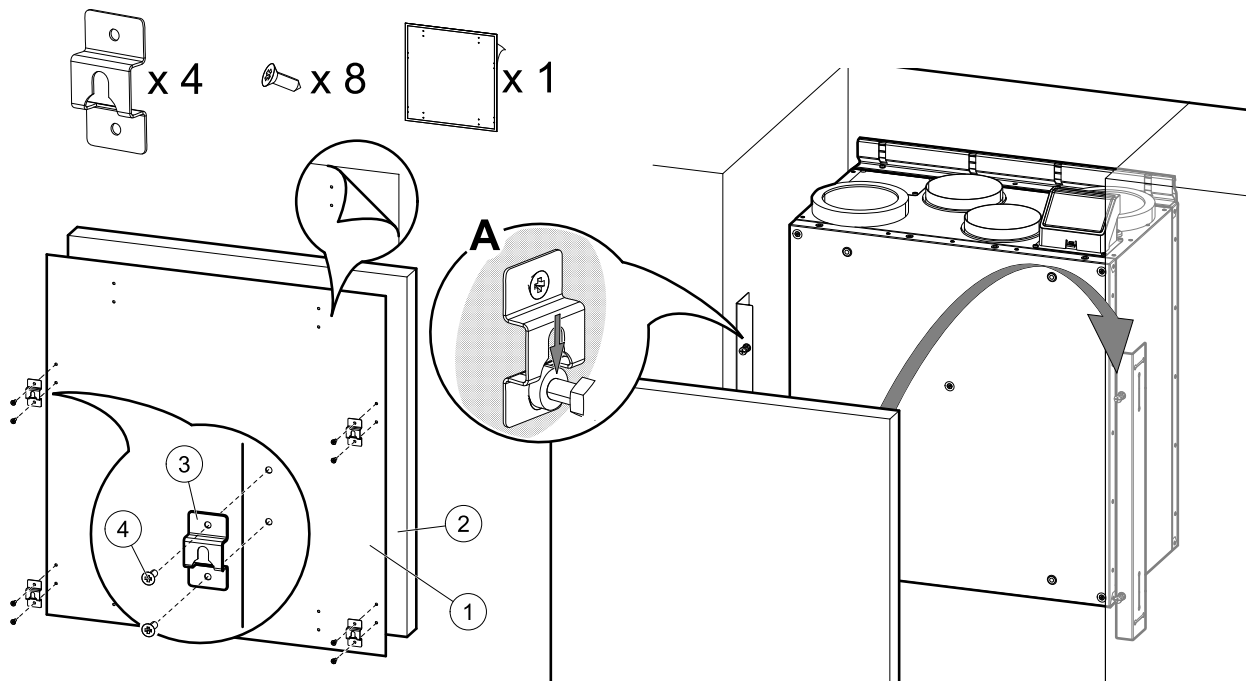

Fig. 23 Installation of hooks and mounting of the cover
2. Install four hooks near the edges on the kitchen furniture panel. Sticker with marked holes (figure 23, pos. 1) is included with the unit. Holes mark spots for screws to attach hooks. Place the sticker on a back of the kitchen furniture panel, figure 23, pos. 2). Size of the sticker is the same as the unit. Manually mark out distances from the edges in case the panel is bigger than the sticker.
Once correct position is found, attach four hooks (figure 23, pos. 3) by fastening each with two screws (figure 23, pos. 4). Hang the panel on protruding bolts (figure 23, pos. A).